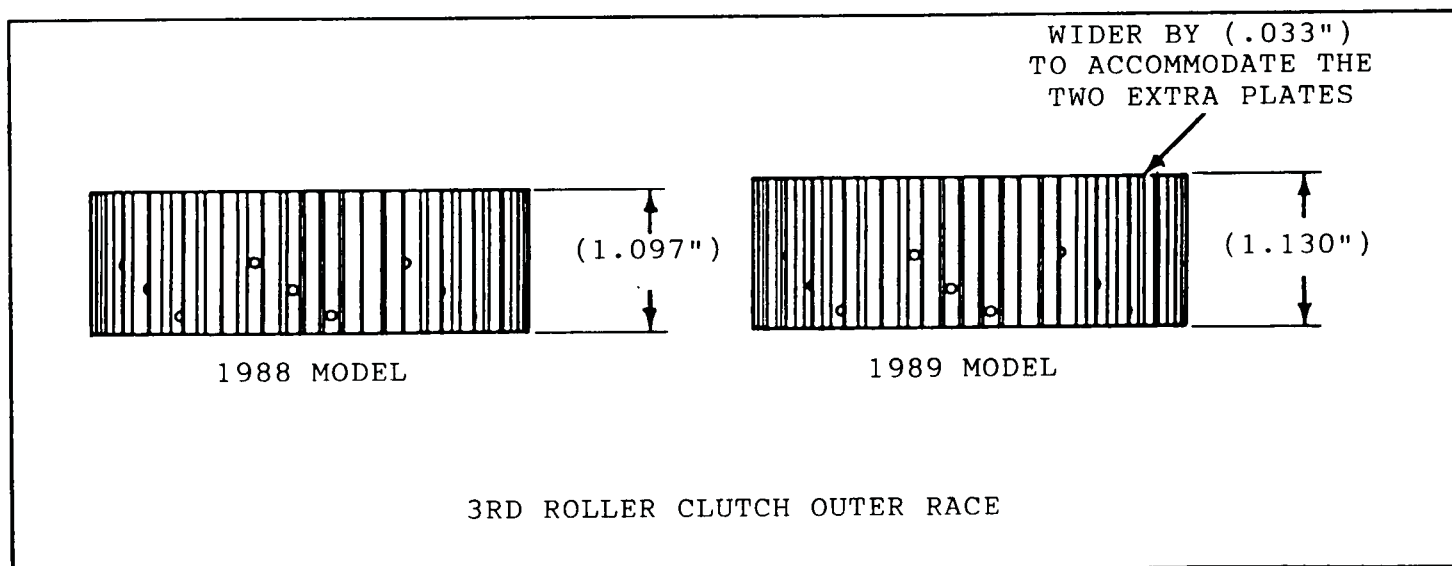

Figure 86
- (5) 3rd Roller Clutch Outer Race - The outer race was made wider by .033" to accomodate the two extra plates. The rollers have not changed in width (See Figure 86).